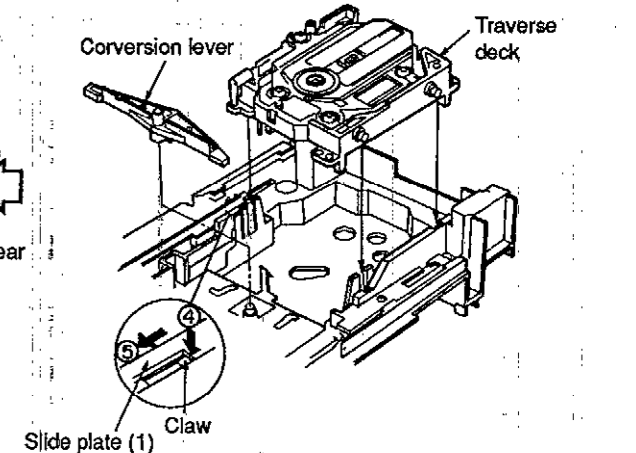

Fig.9
15. Press the claw in the direction of arrow ④ and then slide the slide plate (1) in the loading unit in the direction of arrow ⑤. (See Fig.9.)
16. Install the traverse deck and the conversion lever. (See Fig.9.)